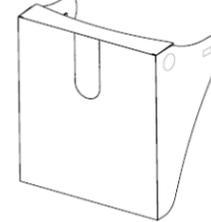

Figure 9
- Once the two sides are folded, remove the red paper backing on the glue dots Figure 9, (removing backing may require a sharp edge to get started) and attach the top flap to the side flaps to complete the assembly